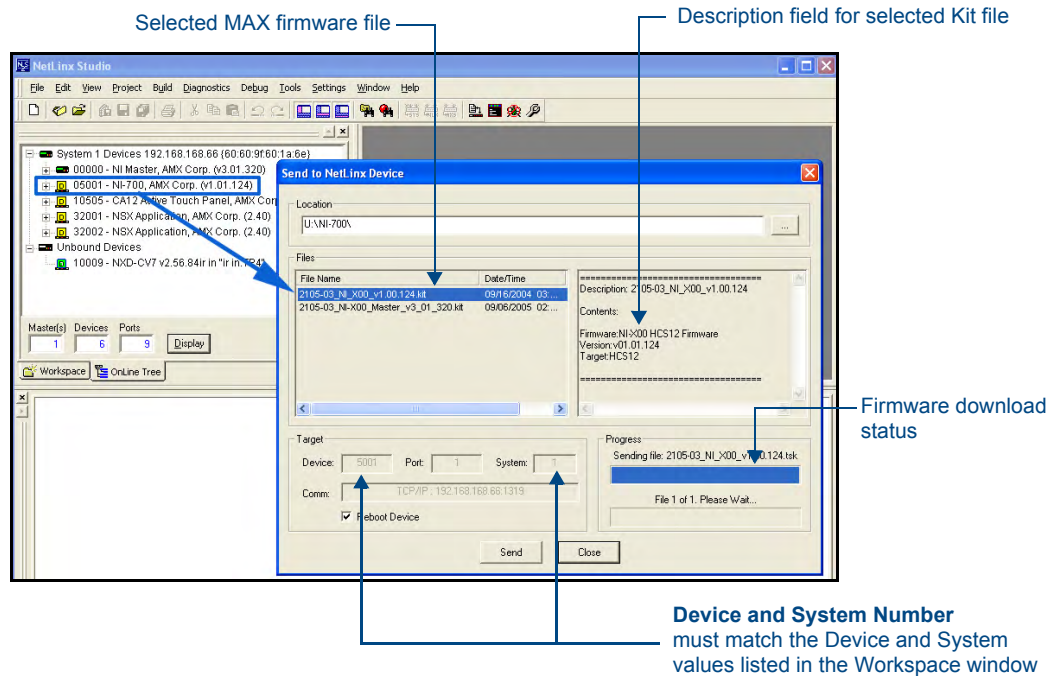

FIG. 39 Send to NetLinx Device dialog (showing MAX unit's firmware updated via IP)
8. From within Studio, select **Tools > Firmware Transfers > Send to NetLinx Device** from the Main menu to open the Send to NetLinx Device dialog (FIG. 39). Verify the target's System number matches the value listed within the active System folder in the **OnLine Tree** tab of the Workspace.
9. Select the particular MAX unit's kit file from the **Files** section (FIG. 39).
12. Click **Send** to begin the transfer. The file transfer progress is indicated on the bottom-right of the dialog (FIG. 39).